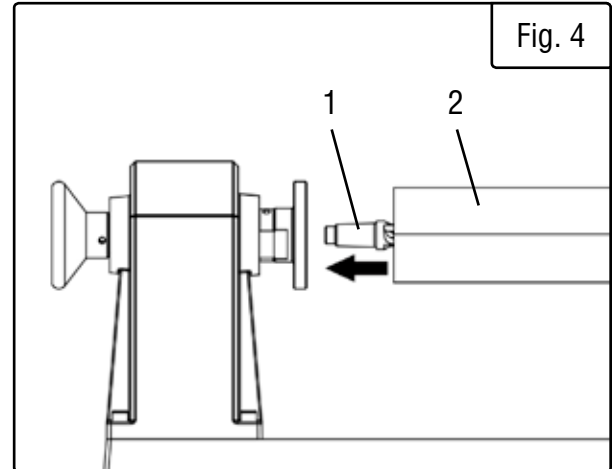

Fig. 4
2. Drive the spur center (Fig. 4 - 1) into the workpiece (Fig. 4 - 2) using a rubber mallet or a piece of scrap wood.